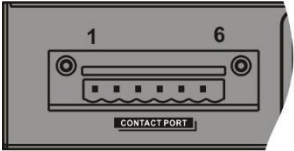

Fig. 1: Focus on contacts port.
The contacts port is formed using six (6) pins numbered from left to right (see fig. 1), which can be connected to an external monitoring system (such as a BMS) to monitor the operational status of the ATS.